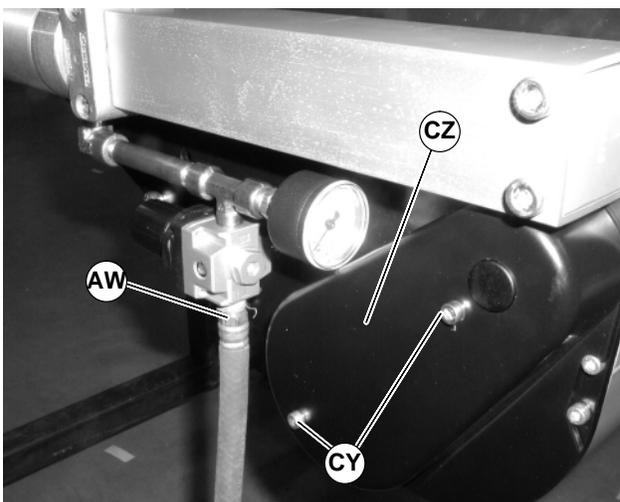

Figure 93
1. Remove air supply and remove hose (AW of Figure 93) from center drive.
2. Remove screws (CY of Figure 93) and guard (CZ).